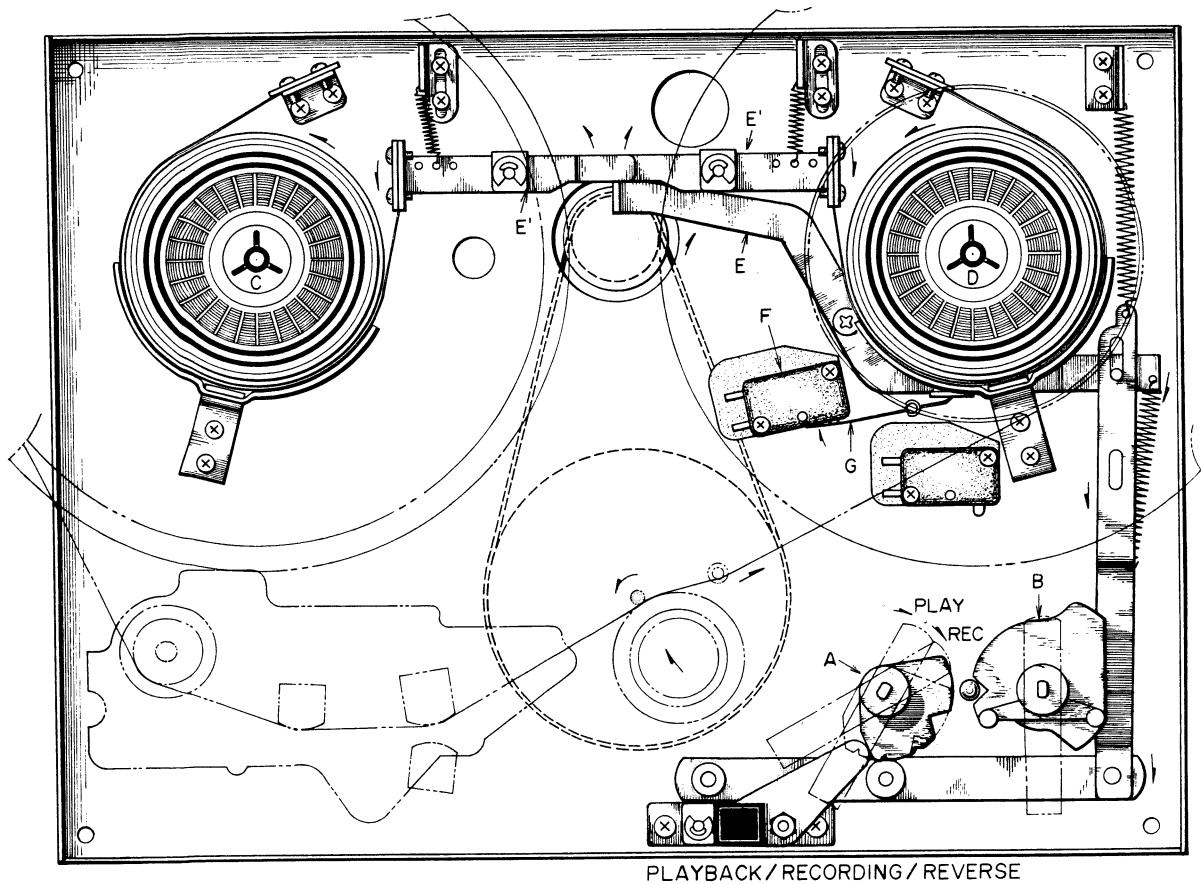

Fig. 5-5
When Fast Forward/Rewind Lever is set to Forward position, SW003 (block diagram) enters forward position. Brake Levers (E) free brake. Lever Spring (G) turns "ON" Microswitch (F) and the TAKE-UP Torque Motor rotates. (See Fig. 5-5)
When Fast Forward/Rewind Knob is set to Rewind position, SW002 (block diagram) enters rewind position. Brake Levers (E) free Brake. Lever Spring (G) turns "ON" Microswitch (F) and the SUPPLY Torque Motor rotates. (See Fig. 5-5)